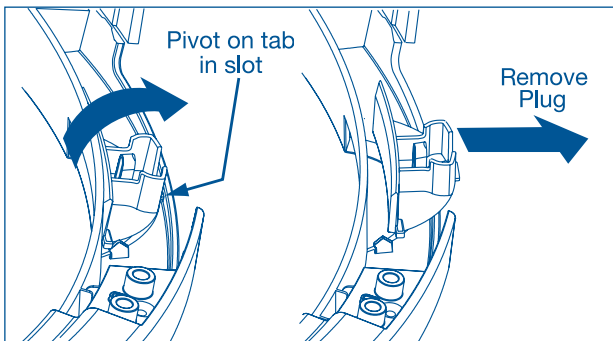

Figure 2-29.
3. Insert the harness connection through the front panel first, and then pivot the lock until it is flush. Slide the lock toward the center of the front panel until the screw holes line up. (See Figure 2-29)